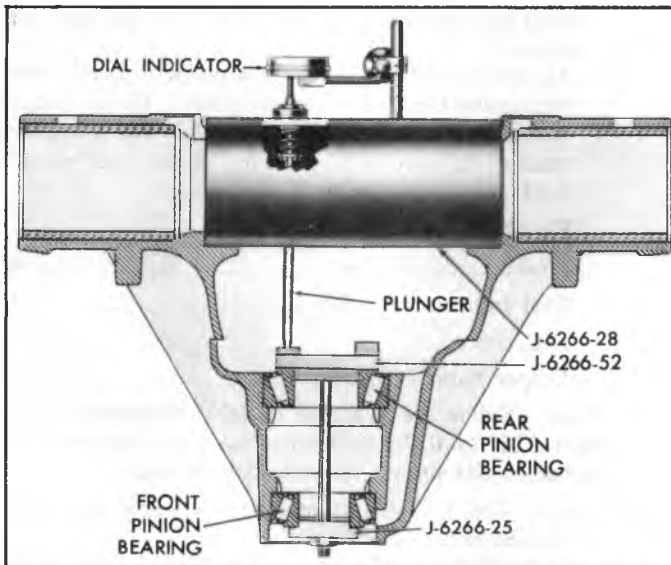

Fig. 9B-Drive Pinion Cone and Roller Assembly Removal
3. Remove pinion rear bearing cone and roller assembly, using Press Plate Tool J-22912. See Figure 9B. Record thickness of shim removed from between bearing cone and pinion head.